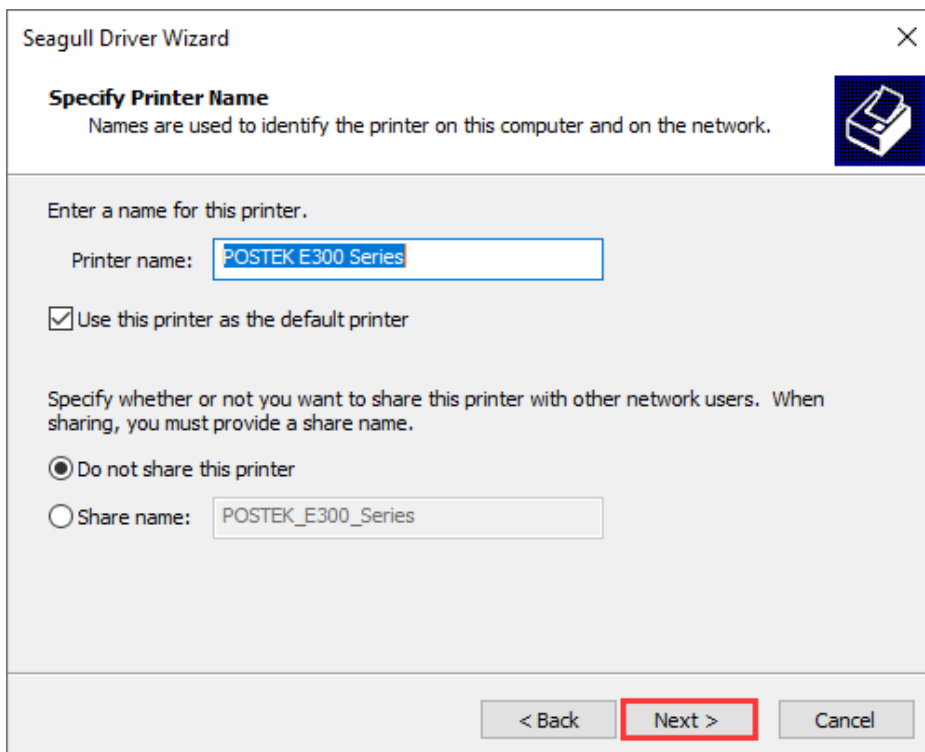

Figure 2-40 Specify Printer Name
10. On the “Specify Printer Name” screen, enter a name for the printer, as shown in Figure 2-40. Click “Next” to complete the driver installation.